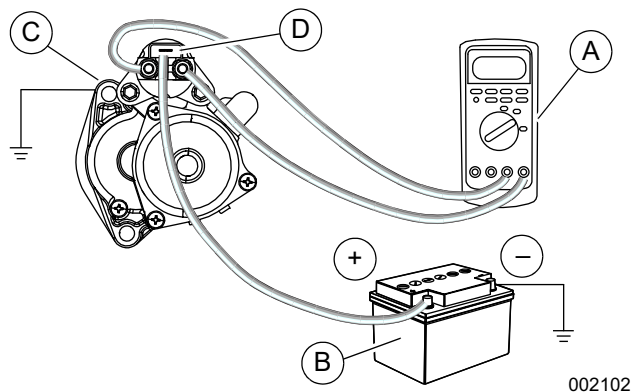

Figure 8-2. Starter Performance Test
1. Set voltmeter (A) to read DC amps.
2. See **Figure 8-2**. Connect voltmeter as shown.